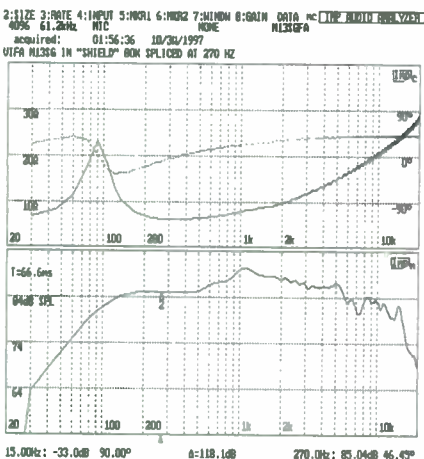
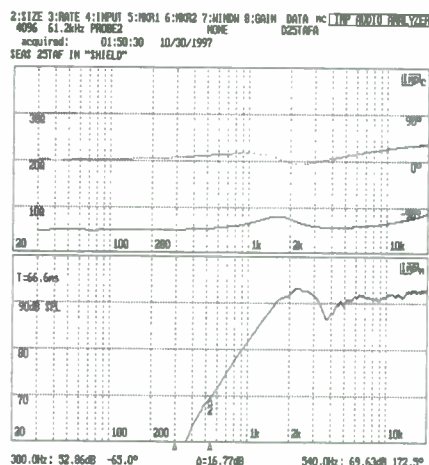

FIGURE 1: Frequency response and impedance of the boxed M13SG-09-08.
FIGURE 2: Frequency response and impedance of the boxed SEAS 25TAF/DTV.
This driver is very substantial, using a cast frame made by Eminence for its professional-series sound-reinforcement speakers, and an aluminum cone with a treated foam surround. The voice coil appears to be 2". This driver is a piston (*most are, I believe. —Ed.*), with an F_s of 28Hz, a Q_{ts} of 0.61, a V_{as} of 3.4 ft³, and an X_{max} of 10mm. I modeled the driver with Boxmodel¹ in Aftershock's 111-ltr ported box tuned to 25Hz. It looked workable even without the sixth-order alignment (Fig. 1).
FIGURE 1: Real and predicted SPL seem to agree. Room gain and side-wall reinforcement not accounted for in the prediction. Measured @ 1W/4Ω/1m. Dash = measured response; solid = Boxmodel prediction.
this new driver, I measured its room response near the floor and one of the side walls with the Audio Control third-octave real-time analyzer. I was rather impressed with the smooth rolloff at both the top and bottom of the spectrum (Fig. 1, again).
Figure 1 is the basic 2.83V/1m SPL frequency response (FR) of the boxed M13SG-09-08. The close-miked response below 270Hz was spliced to a gated IMP MLS response. Note the 5.5dB step from 400Hz to 1kHz, shown partially equalized in Fig. 1, SB 8/97, p. 12. Figure 2 is the